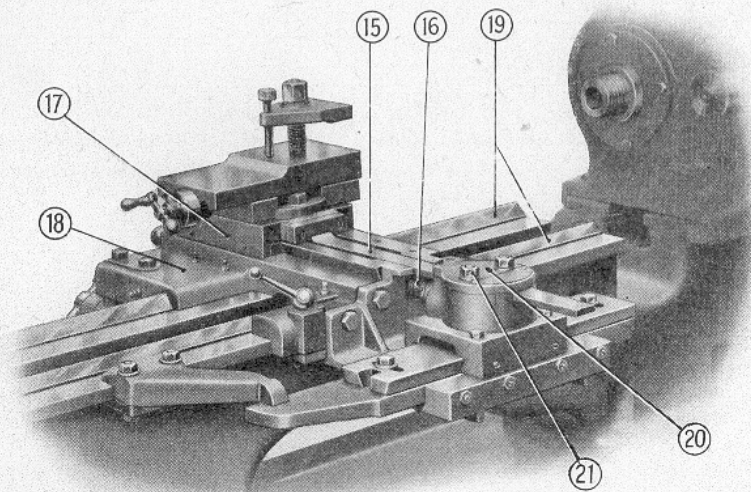

Fig. 5.
2. Do not use the bed as a receptacle for tools or work pieces as they may be trapped between the saddle and headstock, and also cause damage to the vee guides (see Fig. 5, item 19) to both saddle and tailstock.
Taper Turning Attachment. (Fig. 5) This fitment is not usually provided, but can be embodied in the lathe if ordered with it (not being capable of attachment afterwards). It is dowel located to the rear of the saddle (item 18) and secured by bolts, the tangent bar (15) being fastened to the surfacing screw (16) and nut. The required degrees of taper can be obtained by slackening the nuts on top of the keeper plate (20). After the setting has been made according to the index plate, the nuts must be locked before operation is begun.
Three screws are fitted on the sides of both the surface cross slide (see Fig. 5, item 17) and top rest for adjusting the strip after wear.